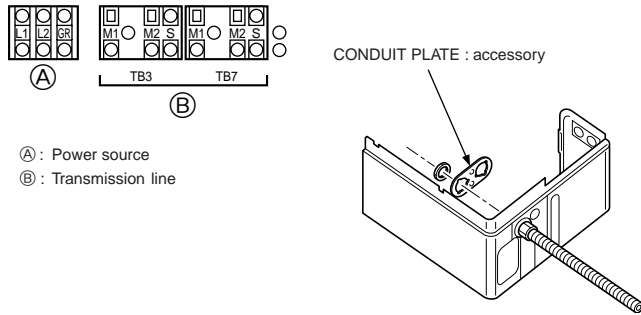

Fig. 6-1
6.2. Control box and connecting position of wiring (Fig. 6-1)